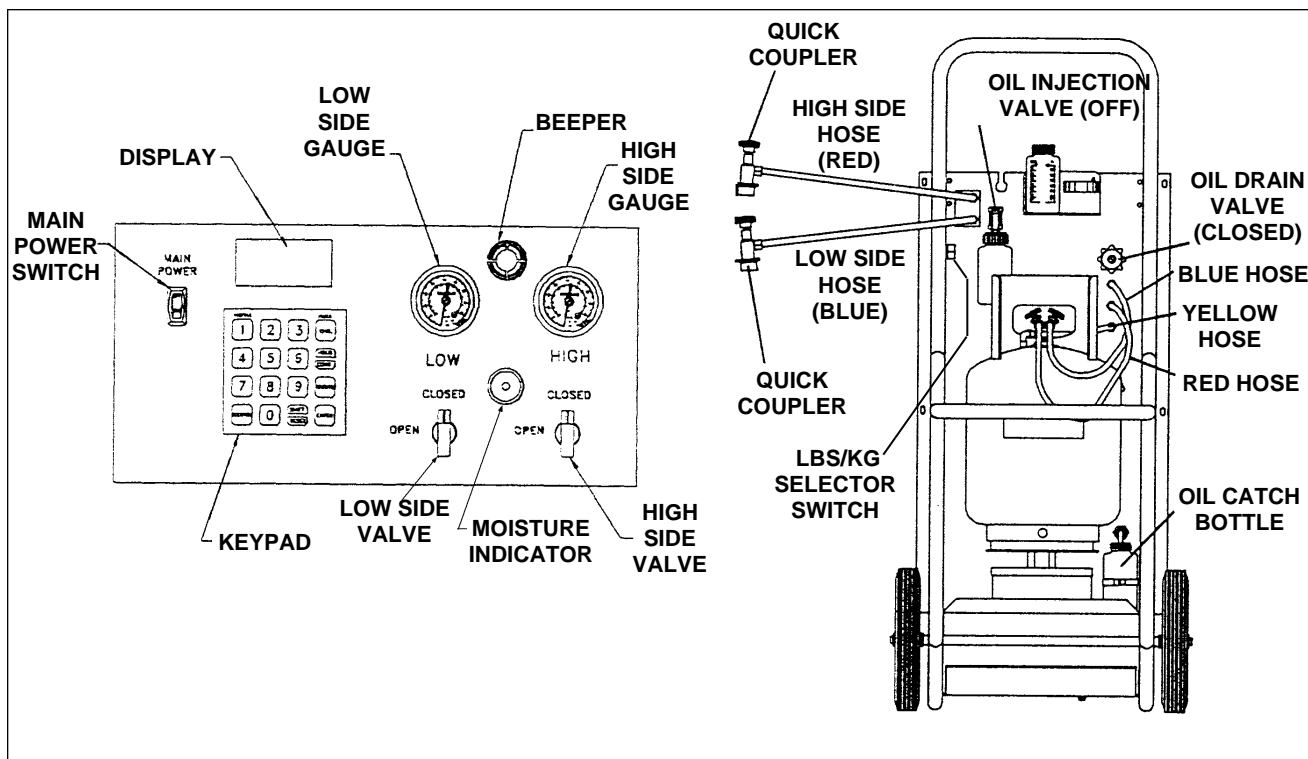
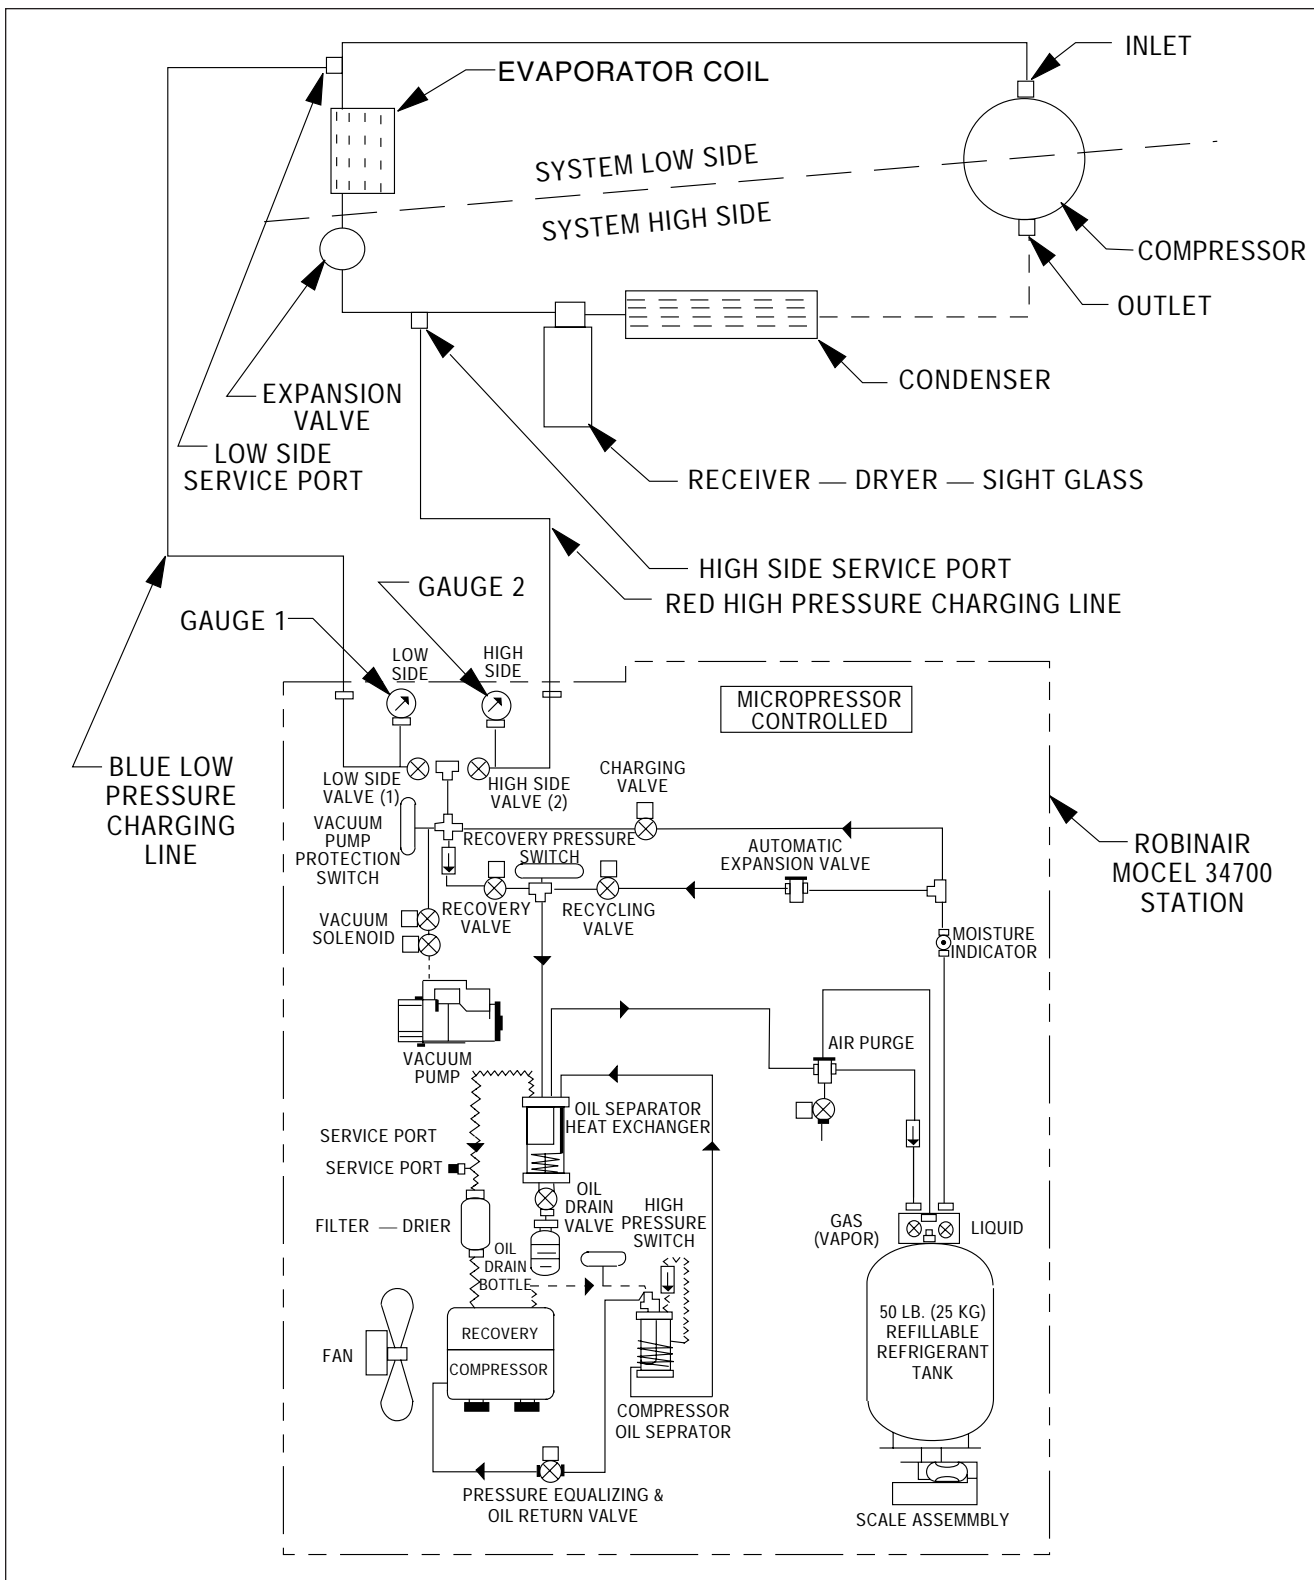

Figure 21-10. Robinair 34700 Control Panel and Hose Connections
Figure 21-11. Robinair 34700 Hose Hookup
- a. Using the Robinair 34700** (Refer to Figures 21-10 and 21-11)
- (1) Remove access panel at rear of cabin to gain access to service valves.
- (2) Remove protective caps from the high and low side service ports on the evaporator unit.
- (3) Close both the low side and high side valves on charging unit. Refer to Figure 21-10
- (4) Connect the blue and red hoses to the service ports as shown in Figure 21-11. On systems equipped with quick disconnect connections, open coupler valves
- (5) Open blue (low side) valve (1) on unit's control panel
- (6) Open both the red GAS (vapor) valve and the blue LIQUID valve on the *tank*. (Refer to Figure 21-10.)
- (7) Program the length of evacuation time.
- (8) Enter the required time in minutes and seconds (30:00 minutes minimum) by pressing appropriate keys and then ENTER on keypad. The display will show selected time in *minutes and seconds*. Example: one hour and fifteen minutes (1:15) would be entered as 7500. The display will show 75:00. Thirty minutes is entered as 3000. the display will show 30:00.
- (9) To start the vacuum pump press the VACUUM key on keypad again.
- (10) Vacuum sequence will continue for the programmed time. Digital display will then show CPL, indicating that the evacuation is completed.
- (11) If, after 5 minutes of pump operation, the RED gauge does not indicate a little below zero:
- (1) If recharge/test stand is not already connected to system, follow steps 4, a, (1) through (4) above.
- (2) Open the high side (2) valve and allow 1/2 pound of refrigerant to enter the system. Close high (2) side valve. (Refer to Figures 21-10 and 21-11.)
- (3) Locate leak(s) using an electronic leak detector designed to detect R12 and/or R134a refrigerant, as appropriate. Or, use soap and water in a thick solution.
- (4) Repair leak(s).
- (5) Discharge system per paragraph D, 5.
- (6) Perform evacuation procedure per paragraph D, 3, a.
- (7) Immediately perform charging procedure per paragraph D, 6.